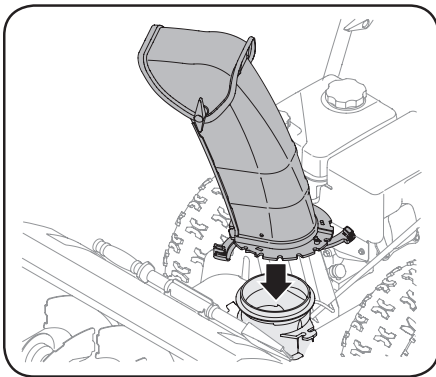

Figure 2-7
1. Position chute assembly over base. See Figure 2-7.